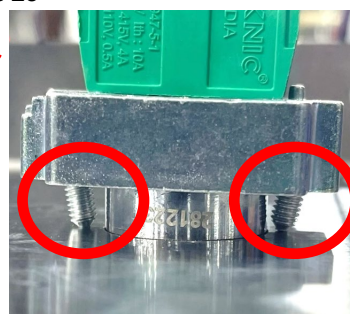

Figure 30
55. Put a dab of Loctite on the threads as shown (see Figure 30).